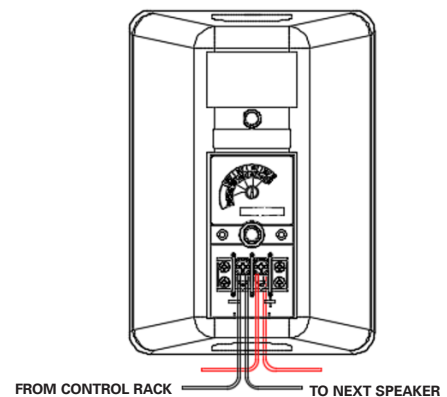

Figure 4
2. Unwind the included speaker wire located in the back of the control rack and route the end of the wire with bare copper ends to the closest speaker. Locate another spool of wire and connect them both to the first speaker as shown in Figure 4.